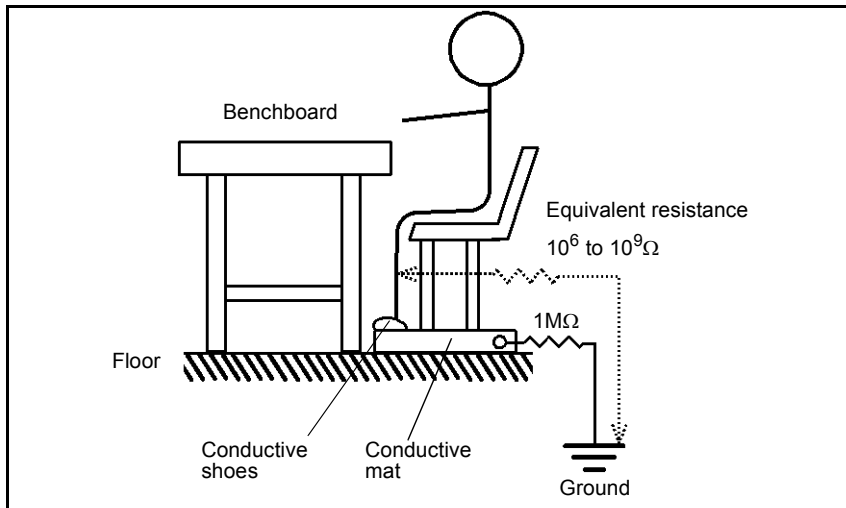

Figure 2-2 Countermeasures for Static Electricity of Work Site Floor
- Floor in the work area: Installation of a conductive mat, the use of conductive shoes, and grounding (see Figure 2-2).